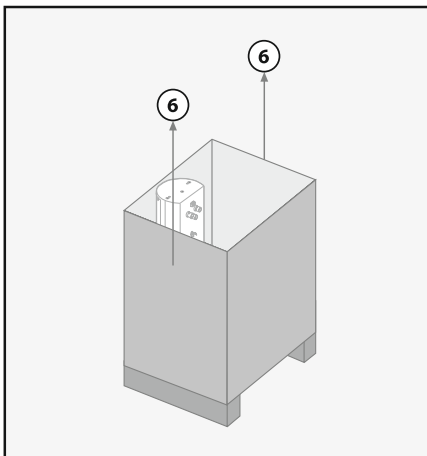

Figure 1.11: Remove the inner carton.
6. Remove the inner carton (see Figure 1.11).